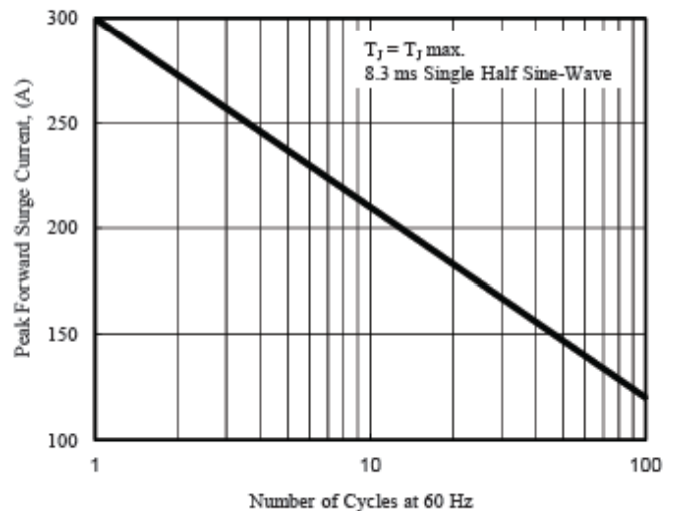
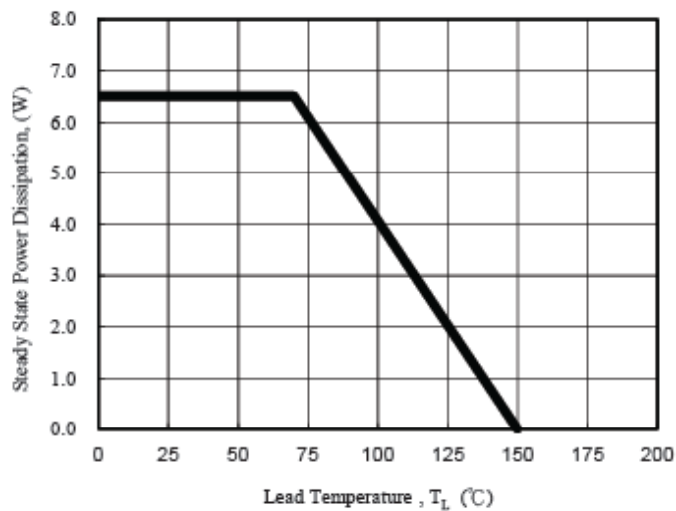

Fig. 2 - Maximum Non-Repetitive Surge Current
Fig. 3 - Steady State Power Derating Curve
(1) Non-repetitive current pulse, per Fig. 3 and derated above $T_A=25^{\circ}\text{C}$ per Fig.2.